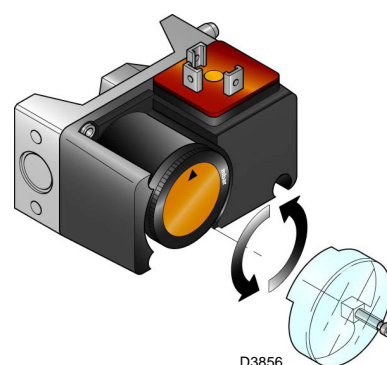

Fig. 36
- Adjust the maximum gas pressure switch (Fig. 36) to the end of the scale.
Adjust the maximum gas pressure switch after having performed all the other burner adjustments with the maximum gas pressure switch set at the end of the scale (Fig. 36).